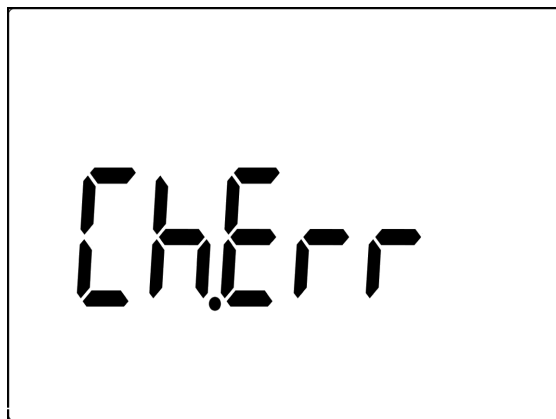

Figure 2-17 Charge terminal alert
**CHG** location. The primary display indicates a flashing “Ch.Err” until the lead is removed from the  **CHG** input terminal. Refer to Figure 2-17 below.